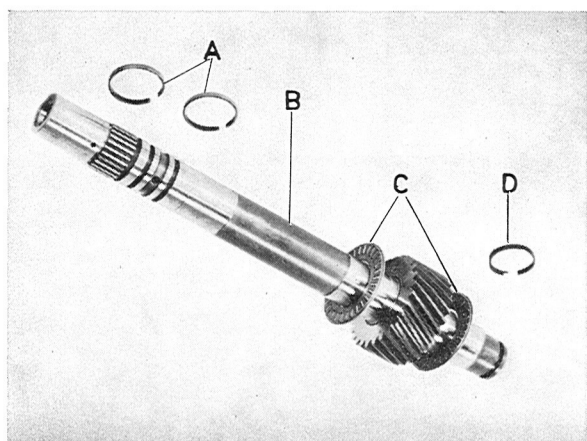

Fig. 4-117. Forward sun gear components
14. Locate the front needle thrust bearing on the rear sun gear shaft. Install the shaft in the rear clutch assembly. Install the oil seal rings, see Fig. 4-117.